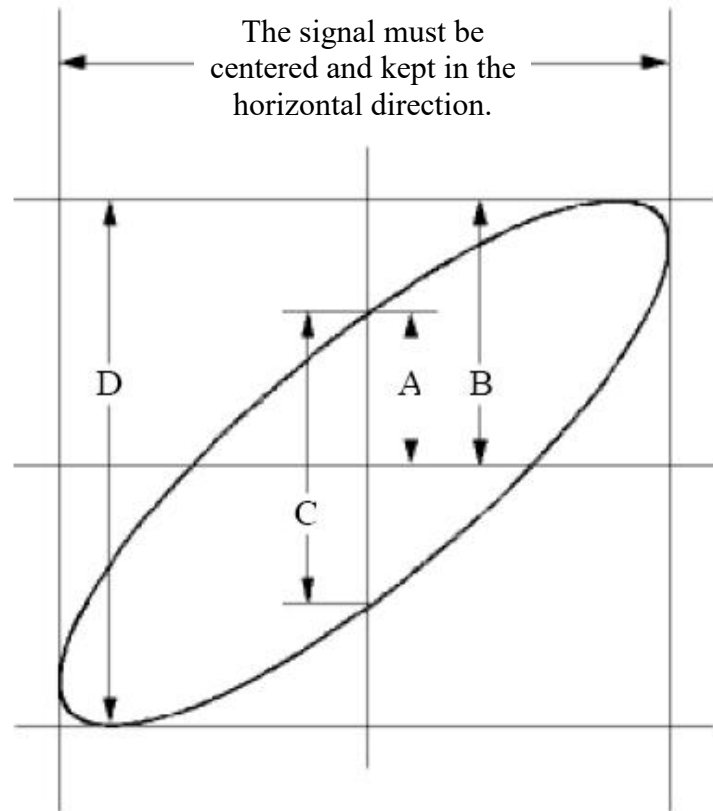

Figure 7-6 Lissajous Graph
- (1) Set the probe menu attenuation coefficient for **10X** and that of the switch in the probe for **10X** (see "How to Set the Probe Attenuation Coefficient" on P11).
- (2) Connect the probe of channel 1 to the input of the network and that of Channel 2 to the output of the network.
- (3) Push the **Autoset** button, with the oscilloscope turning on the signals of the two channels and displaying them in the screen.
- (4) Turn the **Vertical Scale** knob, making the amplitudes of two signals equal in the rough.
- (5) Push the **Acquire** button to display the right menu.
- (6) In the right menu, select **XY Mode** as **ON**. The oscilloscope will display the input and terminal characteristics of the network in the Lissajous graph form.
- (7) Turn the **Vertical Scale** and **Vertical Position** knobs, optimizing the waveform.
- (8) With the elliptical oscillogram method adopted, observe and calculate the phase difference (see *Figure 7-6*).